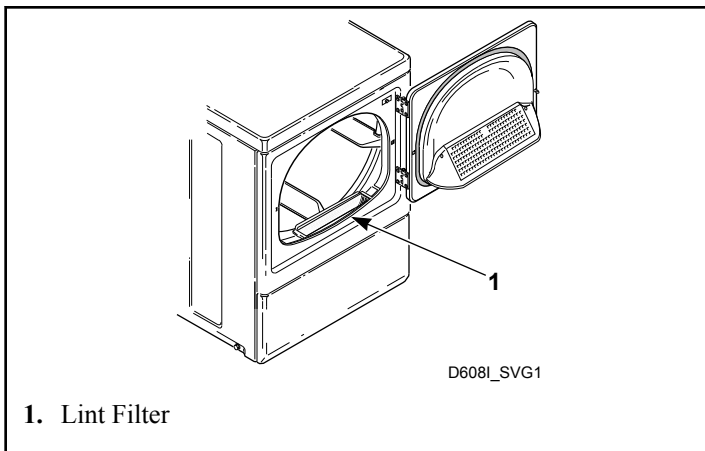

Figure 36
**CLEAN THE LINT FILTER BEFORE DRYING EACH LOAD.** (Refer to *Figure 36* for lint filter location.) Cleaning the lint filter is important because a layer or pad of lint on the filter will block the flow of air through the dryer, thus reducing the efficiency of the dryer. The clothes will take longer to dry and energy will be wasted.